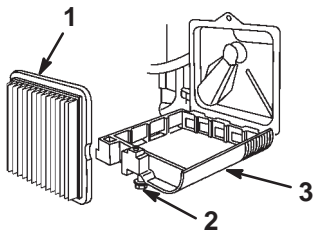

Figure 18
3. Loosen the screw that secures the air cleaner cover (Fig. 18).
4. Tilt the cover down and clean it thoroughly (Fig. 18).
5. Remove the paper air filter and discard it (Fig. 18).
6. Insert a new paper air filter (Fig. 18).